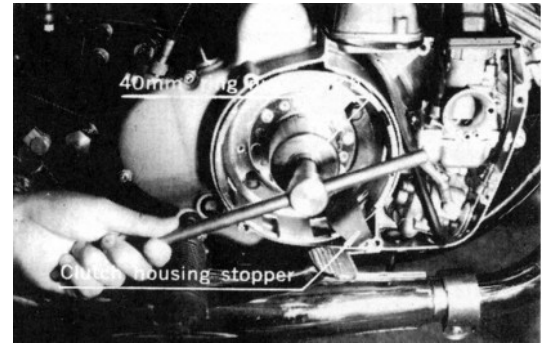

Fig. 56 Removing ring nut with clutch housing stopper
4. Remove the ring nut with the clutch housing stopper and ring nut fitting tool (special tools), and then remove the clutch housing. (Fig. 56, 57)